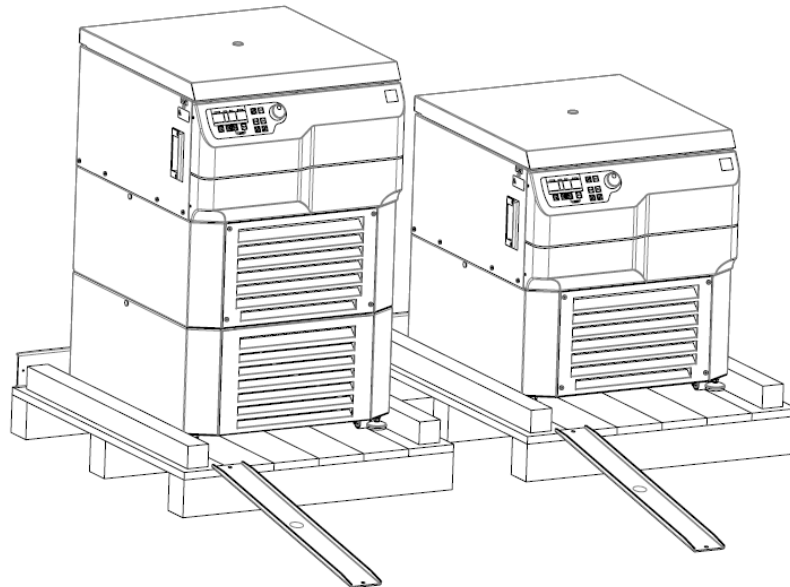

Figure.9
- Remove the metal bars and fix them to the front edge of the pallet so that they can be used as a ramp (see Figure 9). Use the same screws and pay attention to secure screw connection.
- Take the provided open-ended spanner to move the centrifuge feet up until it is on its rollers (see also figure 9).